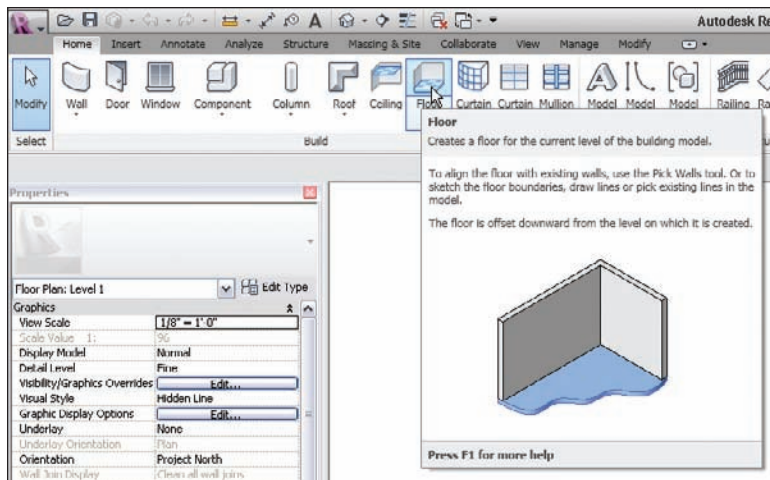

FIGURE 6.1 The Floor button on the Home tab
3. On the Home tab, select the Floor button, as shown in Figure 6.1.